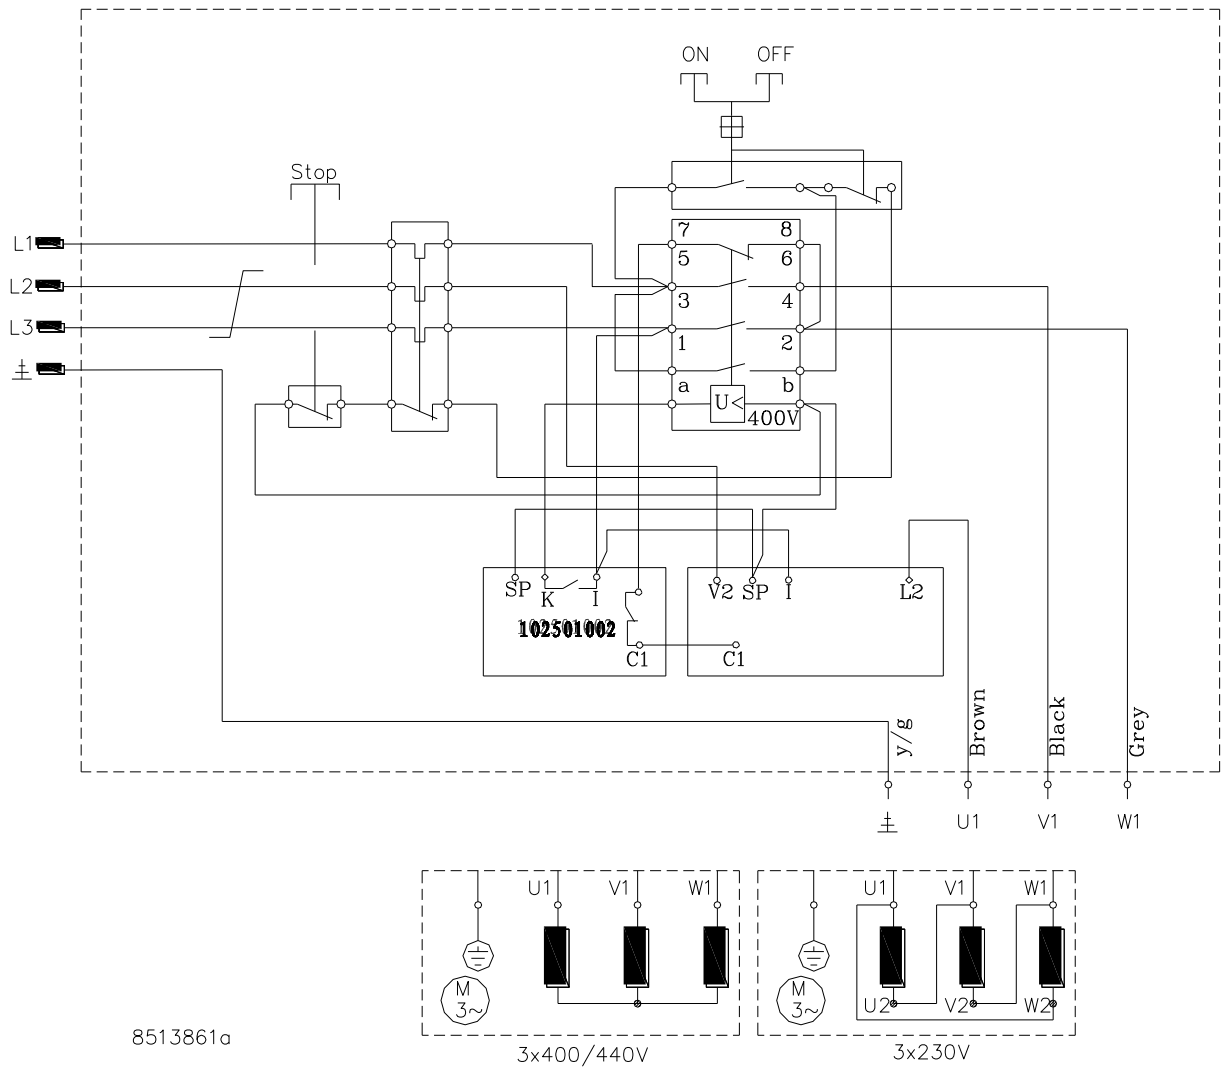

Fig.: 4.3.3 Diagram of belt grinder with brake and no exhaustmotor.
- One velocity grinder with brakes see Fig. 4.3.3 and 4.3.4